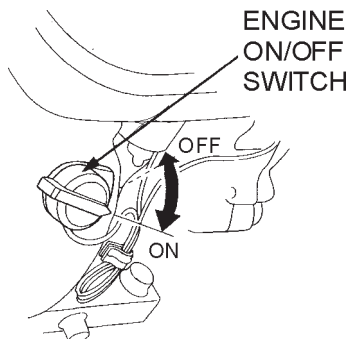

Figure 10. Engine ON/Off Switch
2. Place the **Engine ON/OFF switch** (Figure 10) in the "ON" position.
2. Place the **Engine ON/OFF switch** (Figure 10) in the "OFF" position.